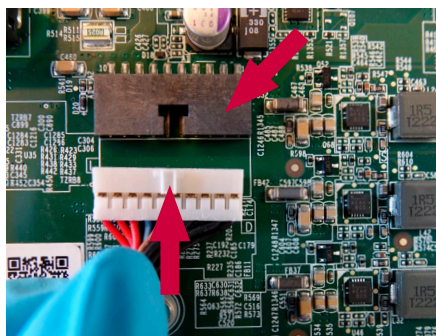

Figure 27 Reconnect the battery connector
- a) Reconnect the battery to the battery connector (see Figure 12 and Figure 27)